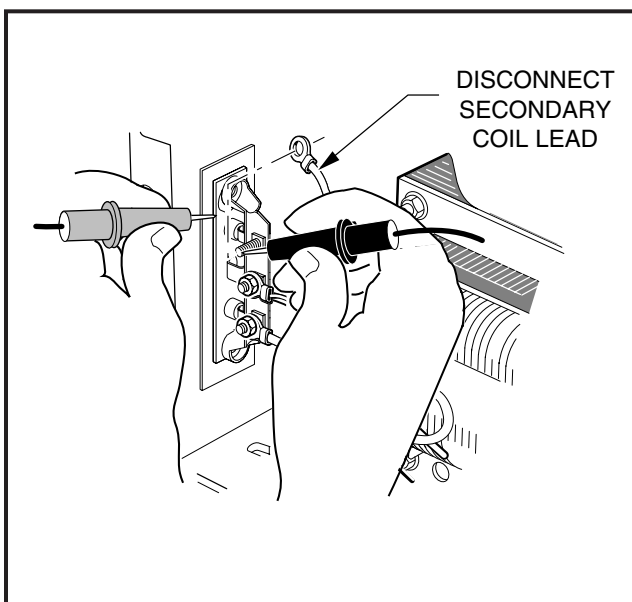

FIGURE 19-9
2. Disconnect one transformer secondary coil lead from the diode terminal (**Figure 19-9**).
3. Using a low voltage continuity tester, connect the red (+) tester lead to the diode mounting plate and the other tester lead to a diode terminal and note the reading (**Figure 19-9**).